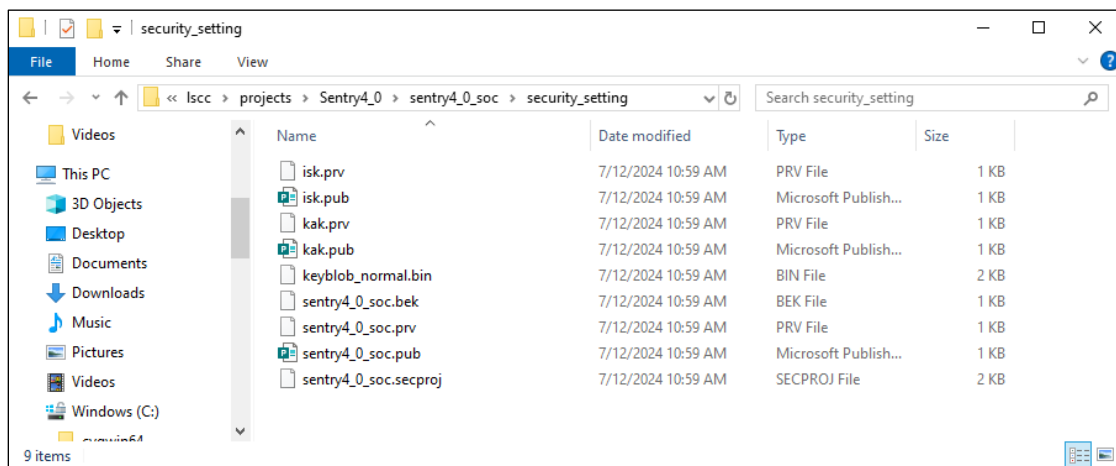

Figure 4.14. Security Setting Directory
- After you click **OK** in this dialog box, the keyblob and keys are stored in a Security Setting directory in the following location: < Workspace>/<SoC Project>/security_setting (Figure 4.14).